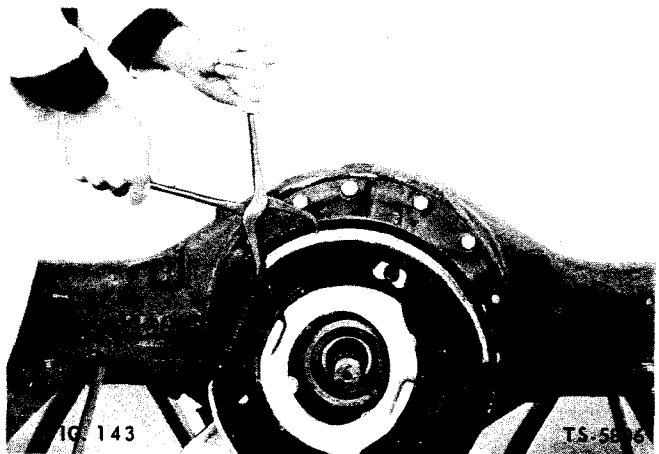

FIG. 143
6. Install brake shoe return springs with brake spring pliers (Fig. 143).